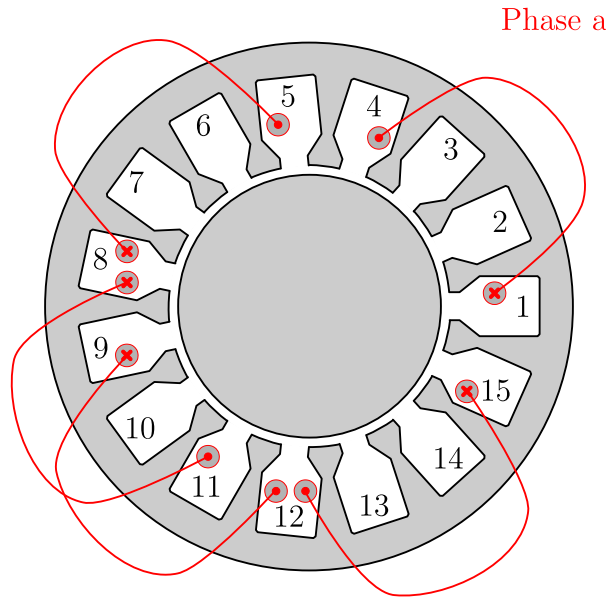

Figure 4.1: Simplified sketch of a distributed winding scheme. Only phase a is shown.
Consider a 4-pole three-phase motor with 15 stator slots. A simplified sketch of this motor with the winding scheme of phase a is shown in Fig. 4.1.
2.2 Complete the winding scheme of the given machine in Tab. 4.1 for the phases b and c. Sketch the resulting winding scheme into Fig. 4.1.
Table 4.1: Winding scheme of the distributed winding from Fig. 4.1.
2.5 Assume a block-shaped distribution of the flux density with a maximal value of $\hat{B} = 1$ T and a number of winding turns $N'_a = 30$ (i.e., there are more turns per coil as indicated within Fig. 4.1). The axial length of the machine is $l = 0.35$ m and the diameter is $d_s = 0.10$ m. The machine rotates with a mechanical speed of $n = 250 \frac{1}{\text{min}}$. Calculate the induced voltage of phase a for the fundamental wave as well as of the 5th and 7th harmonics.